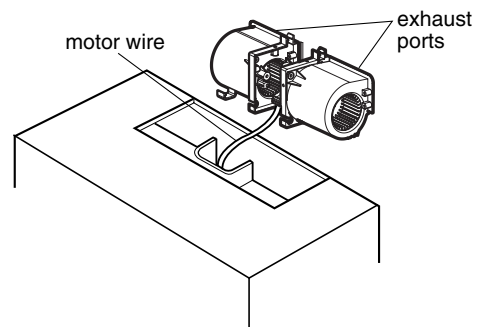

Figure 17
3. Rotate the vent motor 180° so the exhaust ports face the back of the cabinet. See Figure 17.